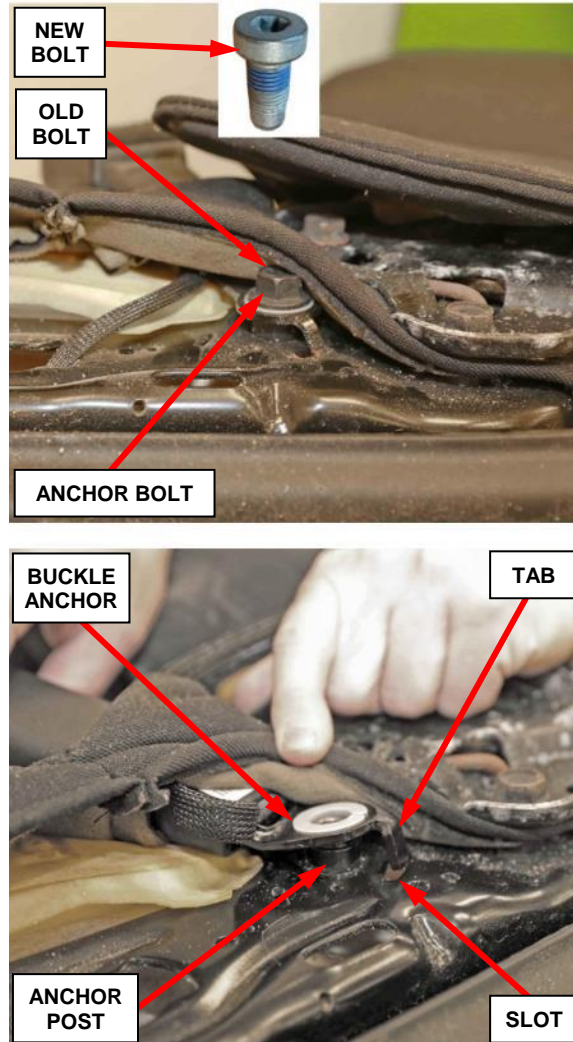

Figure 10 – Seat Belt Buckle Anchor
13. Remove and **DISCARD** the bolt that secures the seat belt buckle anchor to the inboard side of the seat cushion frame (Figure 10).
14. Disengage the seat belt buckle and scabbard from the opening in the inboard side of the seat cushion trim cover (Figure 10).
18. Insert the **NEW** seat belt buckle scabbard through the opening in the inboard side of the seat cushion trim cover (Figure 10).
19. Position the buckle assembly anchor onto the anchor post on the inboard side of the seat cushion frame and align the tab on the buckle anchor with the slot in the seat cushion frame (Figure 10).
20. Install and tighten the **NEW** bolt that secures the seat belt buckle anchor to the seat cushion frame. Tighten the bolt to 45 N·m (33 ft. lbs.) (Figure 10).